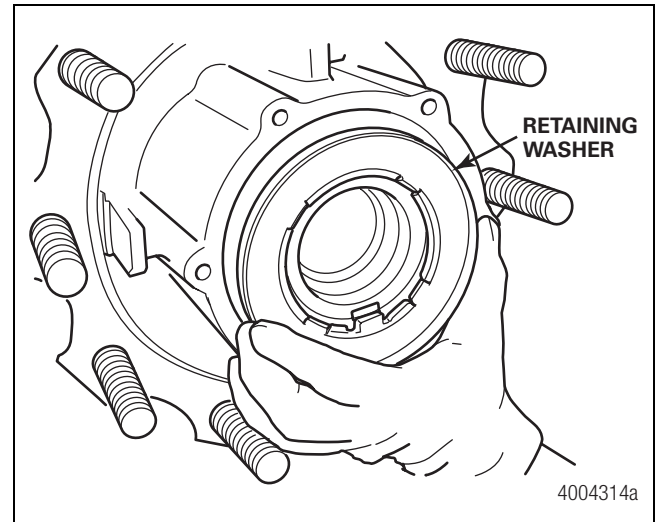

Figure 4.43
4. Install a new stake washer (part number AM21225514), or the existing washer if it is not worn or damaged, onto the spindle. Figure 4.43.